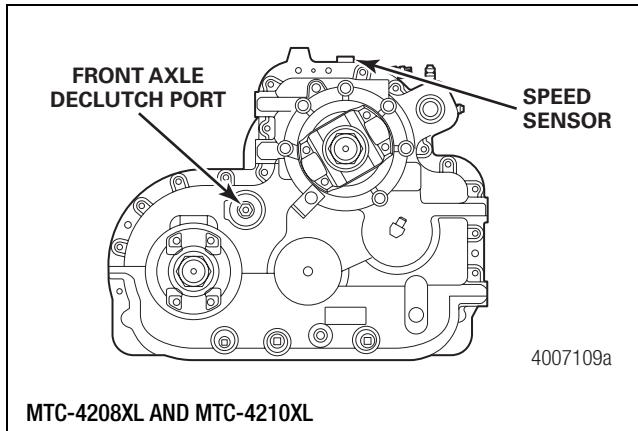

Figure 6.46
3. If removed, install the speed sensor into the top of the transfer case. Figure 6.46. Fasten with a capscrew and washer.
1. Apply 60 psi (4.14 bar) or greater of air pressure to the front axle declutch. Figure 6.46.